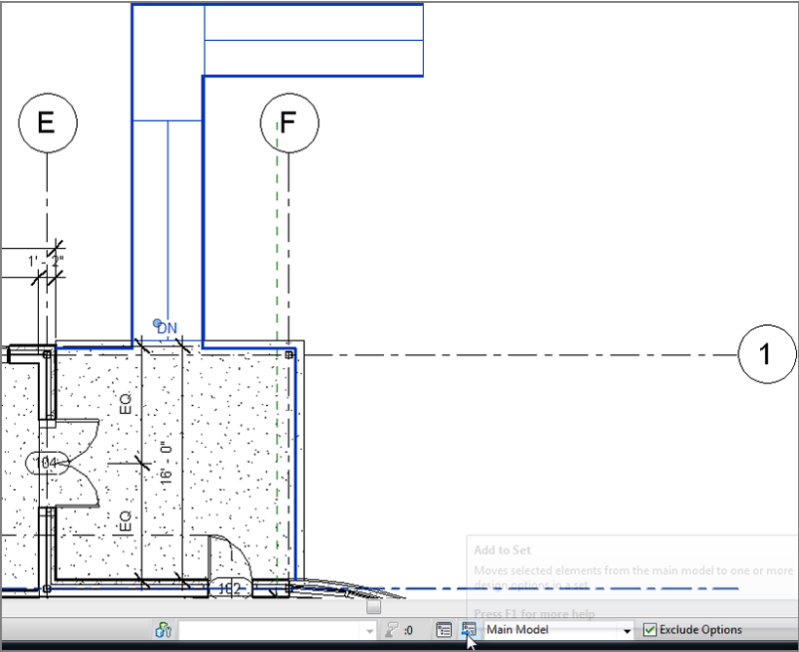

FIGURE 21.11: Adding to a set
13. Select both the ramp and the railing, as shown in Figure 21.11.
14. Click the Add To Set button at the bottom of the Revit window (see Figure 21.11).